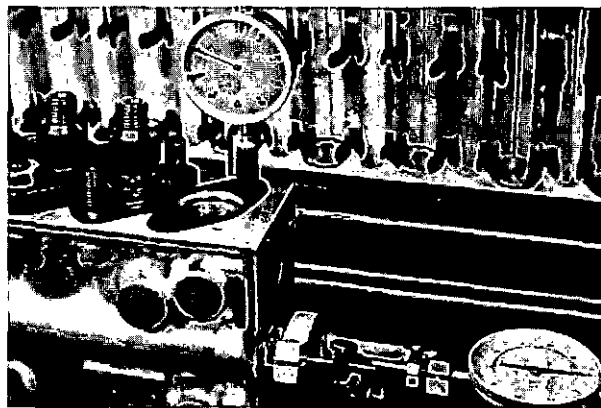

Fig. 57 Adjusting thickness of phasing shims.
- (v) Turn the pump camshaft manually in direction of rotation (clockwise, viewed from drive end) until oil just ceases to flow from the leak-off. The dial gauge reading at this point should be within the limits specified against 'Plunger lift to port closure' in Stage 'A' of the Test Schedule. Adjust, if necessary, by means of the phasing shims beneath the barrel/delivery valve assembly (fig. 57), reducing shim thickness to rectify late closure, and vice versa. Pumps with serial numbers prefixed '626' and later have two-piece shims which can be changed without removing the barrel/delivery valve assembly. Variation of shim thickness affects the dial reading by a corresponding amount. When correct, leave camshaft at No. 1 port closure and set the pointer of the graduated disc on the pump drive to a convenient figure, noting this for reference during phasing.